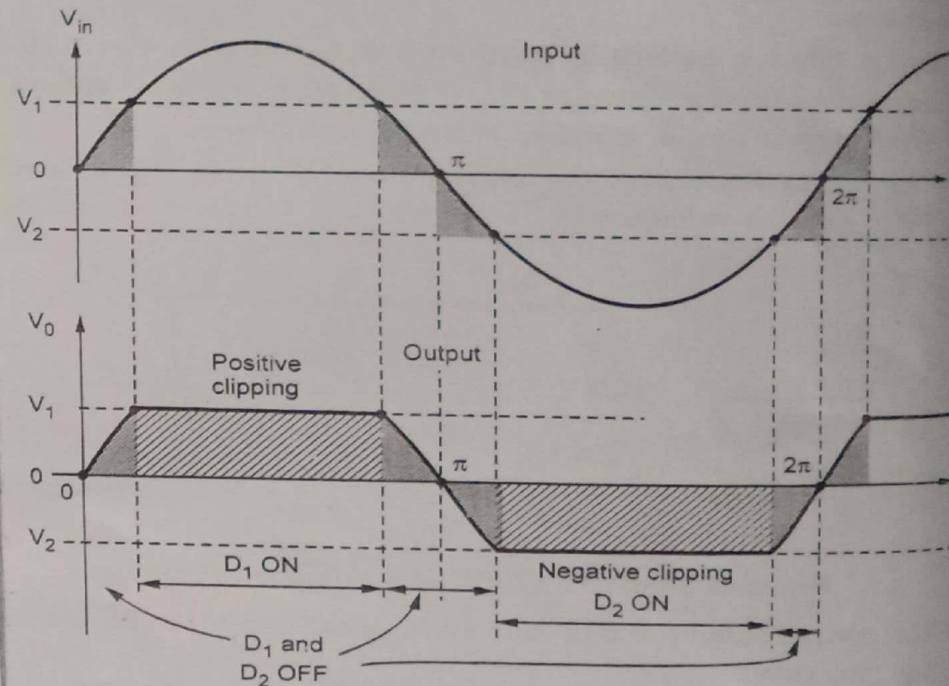

Fig. Q.46.2 Waveforms of two way clipper
- The input and output waveforms for the two way clipper are shown in the Fig. Q.46.2.